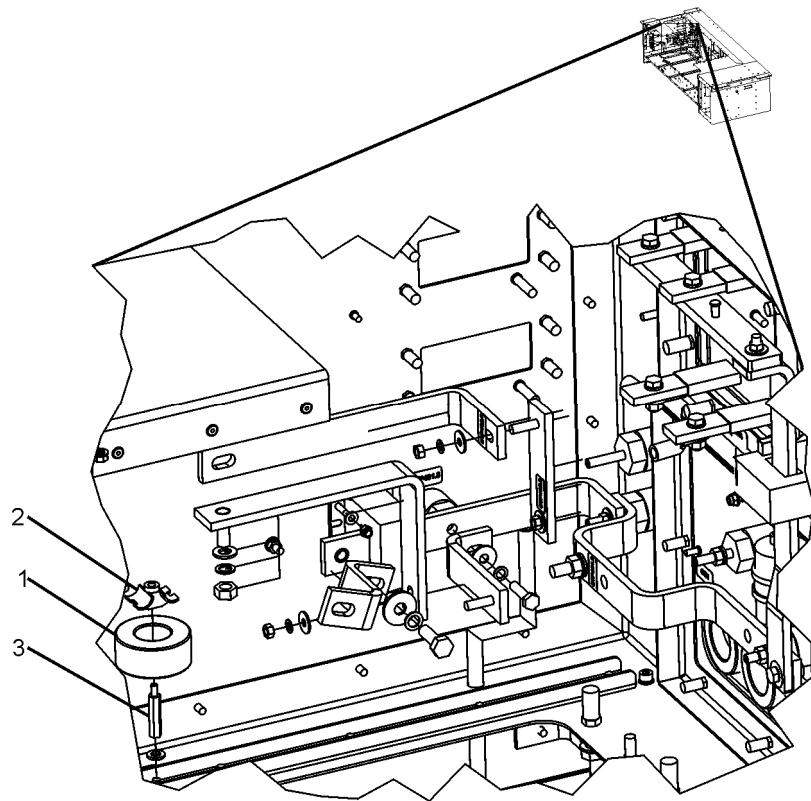

Figure 5-41: L402 Anchor Points
6. Detach L402 (see Figure 5-41). L402 (1) is mounted to a standoff (3) and is held in place with a cable tie anchor (2). To detach, clip the cable ties which bind the choke to the cable tie anchor.
3. Insert L420 (see Figure 5-41). Place the ring core atop the dual cable anchor. Orient the choke with the short lead toward the back and the long lead toward the front.
4. Attach L402 (see Figure 5-41). L402 (1) is mounted to a standoff (3) and is held in place with a cable tie anchor (2). Strap the L402 to the cable tie anchor with cable ties. Use as many as needed to ensure L402 will not move during APS operation.